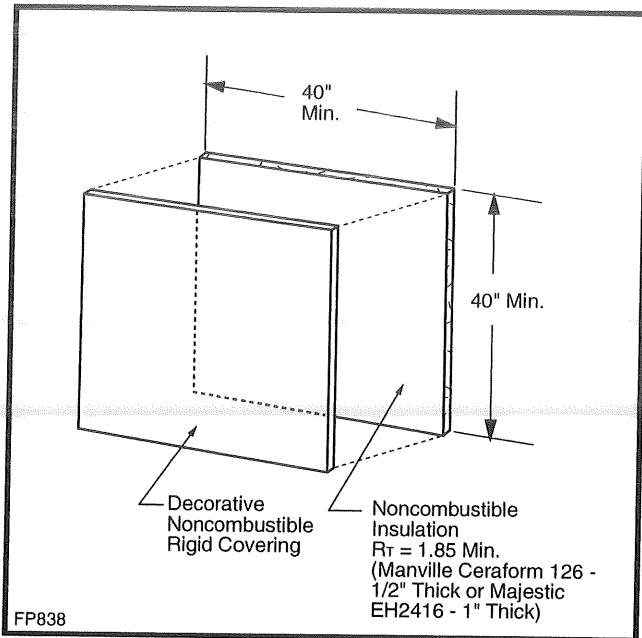
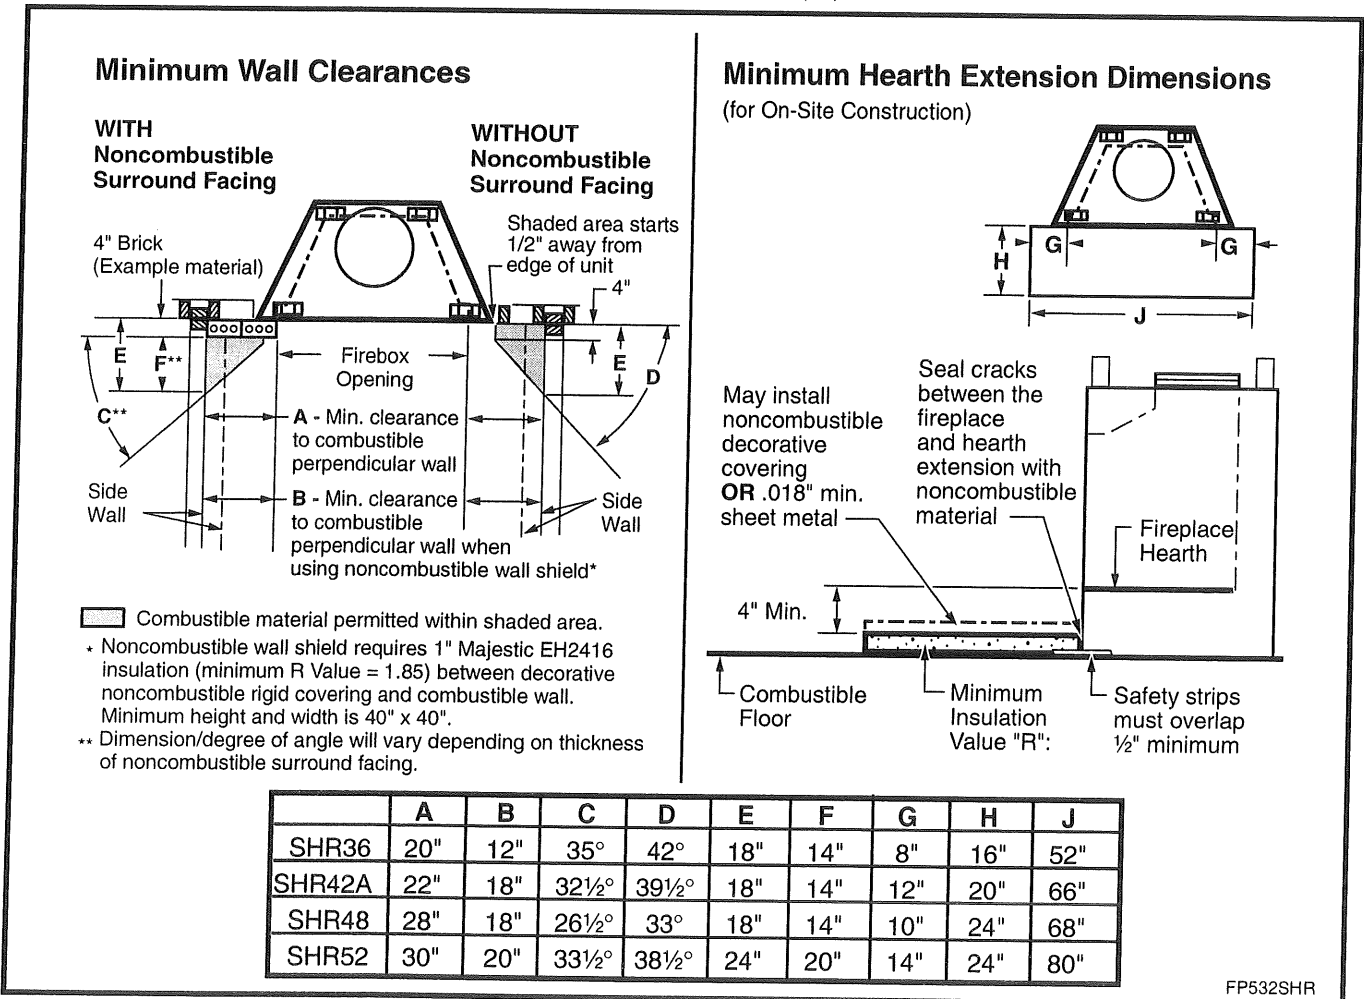

Fig. 28 Noncombustible wall shield dimensions.
Fig. 29 Combustible side wall protection and hearth extension dimensions.
Adjacent combustible side walls that are within dimensions shown in Figure 29 of fireplace opening must be protected with Wall Shield Model SP40 or a specifically built wall shield described in Figure 28.
A hearth extension is required to protect a combustible floor in front of the fireplace. Refer to Figure 29 for minimum dimensions and mounting detail.
The hearth extension described in Figure 29 must be a durable noncombustible material with a minimum (total) Rt value of 1.09; refer to Figure 30 for examples. The overall height (above a combustible floor), depth and width must be as indicated, with the extension centered to the fireplace opening.
The top of insulation must be covered with a noncombustible decorative covering or a piece of .018" minimum sheet metal, to protect hearth extension material. (Fig. 29)
Secure the hearth extension to the floor to prevent shifting, using trim molding or other similar means at three (3) outer edges. Seal crack between the fireplace hearth and hearth extension with a noncombustible material. (Figs. 29, 31, 32, 33)
Alternate noncombustible materials may be used providing the (total) thermal resistance (Rt value) of the alternate material employed is greater than or equal to $R = 1.09$. Thermal resistance (R) or thermal conductivity (K), may be obtained from manufacturer of the material. Factors are related by the formula $K = 1/R$. (Fig. 29)